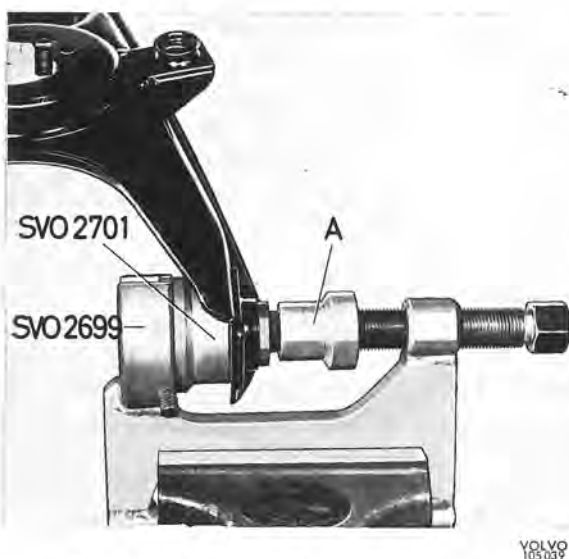

Fig. 6-31. Removing rubber bush, lower control arm
1. Tension the press tool 2699 in the vice. Remove the washer (1, Fig. 6-13), the rubber ring (2) and the spacing ring (3). Press the bushes out with counterhold 2701. Use drift 2904 for bushes where diagonal tyres are fitted and 2905 for radial tyres. The tools are placed as shown in Fig. 6-31. The bushes are, of course, pressed out in the direction towards their flanges.
2. Press in the bushes with the control arm and drift (A, Fig. 6-31) facing in the opposite direction.